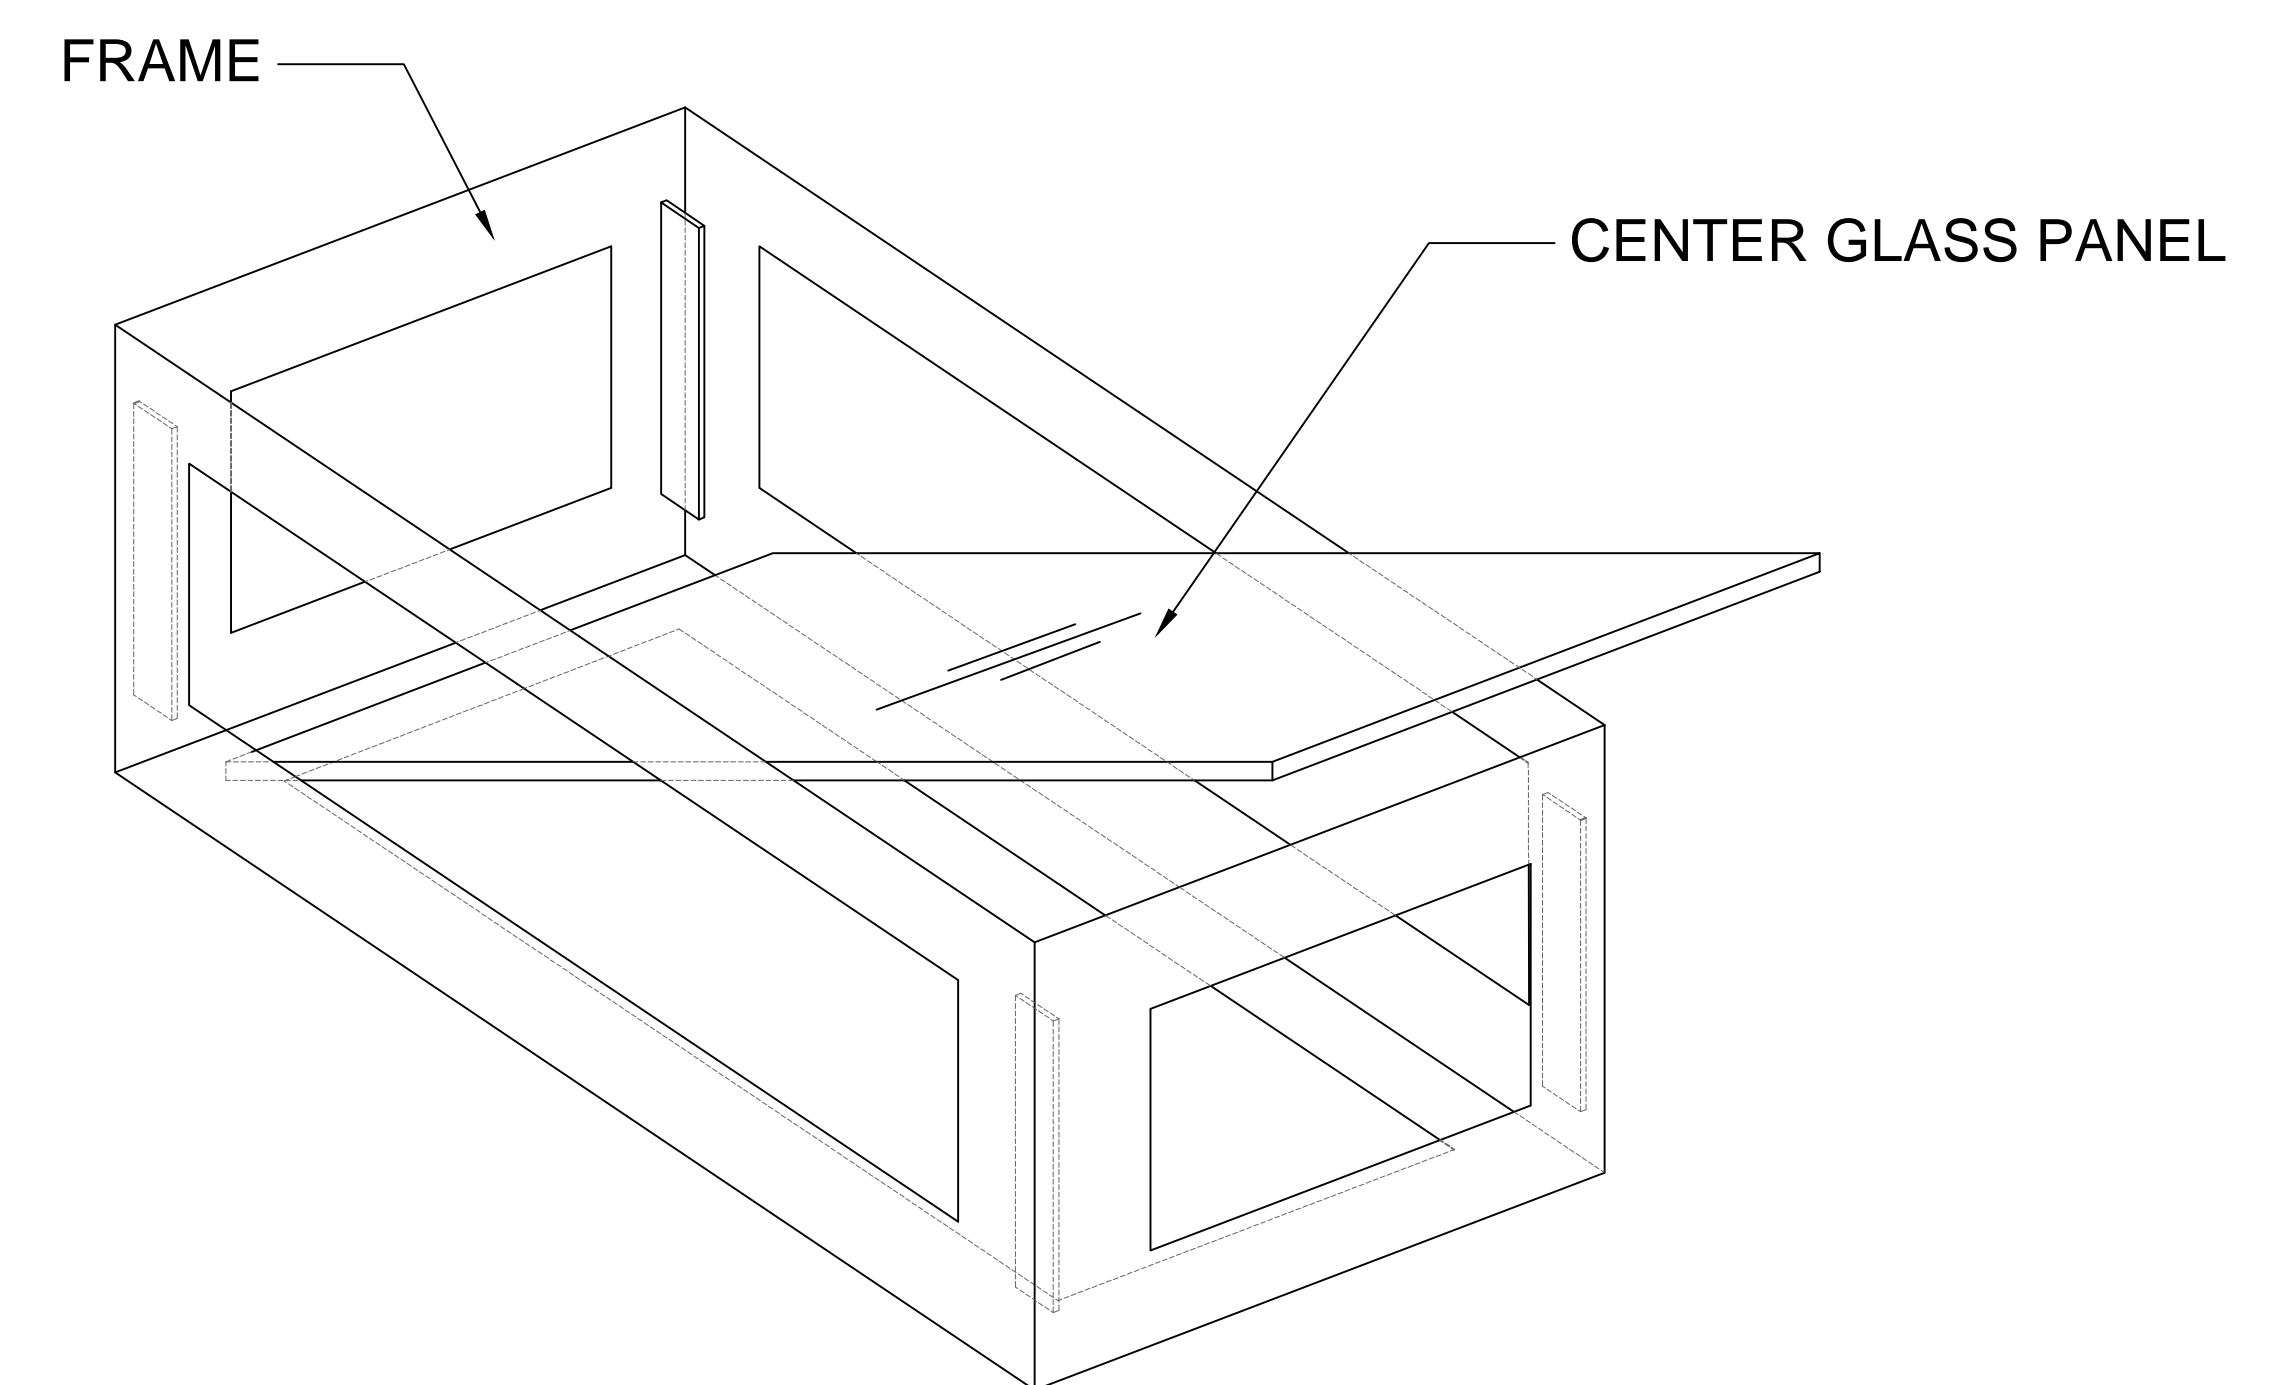

FIGURE-03
6. Carefully insert the Center Glass Panel unto the SS frame. (See Figure-03)